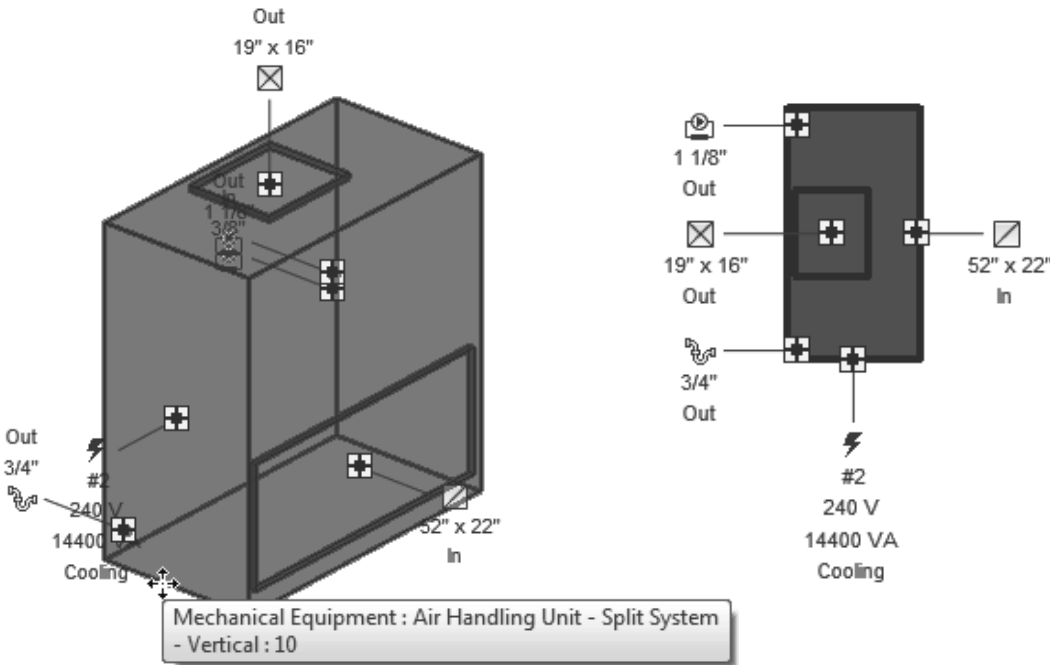

Figure 2–11
- Take time to get to know the components that come with the Autodesk Revit MEP software. Their most critical content are the connectors, as you see in for a piece of mechanical equipment in Figure 2–11.